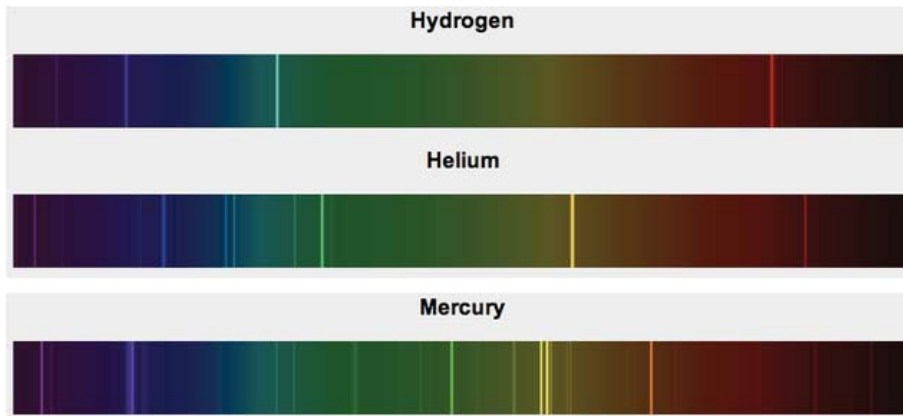

Figure 8.4: Emission spectra for hydrogen, helium and mercury.
The periodic table of the elements is also explained by the atomic model, where every element is uniquely identified by the number of protons in its nucleus. Quantum mechanics explains the energy states of the electrons in an atom. Every element in the periodic table has a distinct set of electron energy levels, so for a given element only photons of specific energies can be emitted. Therefore, when you are measuring the emission spectrum of an element, only certain wavelengths of light are allowed and the “pattern” that is produced is unique for that substance. Notice the differences in the emission spectra for hydrogen (H), helium (He) and mercury (Hg), that are shown in Fig. 8.4.